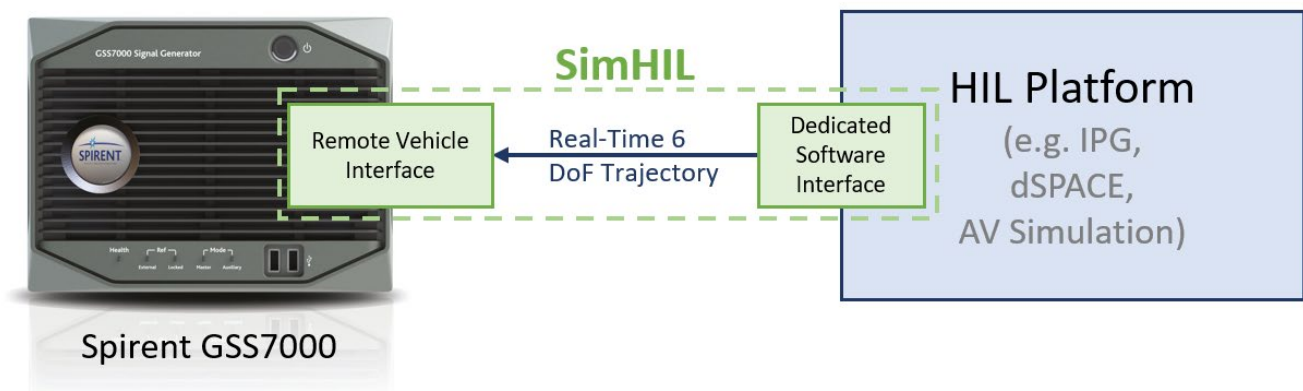

Figure 1: SimHIL Overview
- Figure 1: SimHIL Overview 6
In addition to the enablement of the remote control interface on PosApp, SimHIL also provides to the customer with Dedicated Software Interfaces (DSI) to successfully integrate the GNSS simulator with the HIL platform. DSIs are easily installed and configured on the third-party environment to ensure that the interface is fully operational on both ends (see Figure 1).
SimHIL acts as an interface between the motion generator and PosApp. This interface has two different parts (see Figure 1):